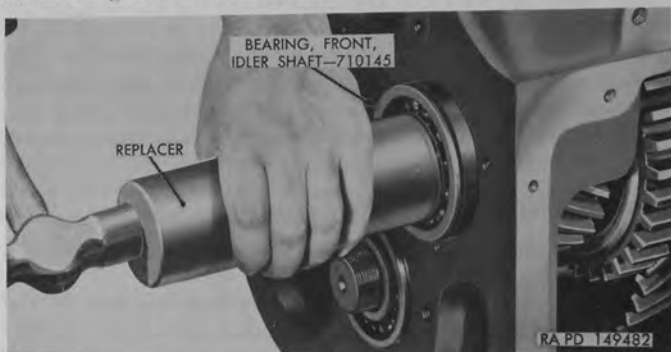

Figure 82. Use of replacer 41-R-2390-415 for installing idler shaft front bearing.
b. Coat bore in forward rear axle output shaft rear bearing retainer (QQ) with plastic type gasket cement; then use wood block or suitable driver to install oil seal (LL) in retainer. Seal must bottom against shoulder in retainer. Position forward rear axle output shaft rear bearing retainer (QQ) over end of shaft against case; then install four $\frac{3}{8}$ -16 x $1\frac{1}{8}$ cap screws (NN), and new $\frac{3}{8}$ -inch external teeth lock washers (PP) to attach bearing retainer to case. Tighten cap screws to torque of 20 to 25 pound-feet.
c. Place bearing spacer (AT) on front end of forward rear axle output shaft (AU); then install forward rear axle output shaft front bearing (AW) on shaft, using replacer 41-R-2390-415 in manner illustrated in figure 82. Bearing inner race must seat firmly against bearing spacer (AT).
c. Place bearing spacer (BD) on front end of idler shaft, then install idler shaft front bearing (BE), using replacer 41-R-2390-415 as shown in figure 82 to drive bearing onto idler shaft.
d. Install nut lock (BH); then install bearing lock nut (BF). Tighten bearing lock nuts (BF and CC) to minimum torque of 100 pound-feet, using holding tool 41-T-3215-910 on forward rear axle output shaft flange to prevent idler shaft from turning. Bend nut locks (AA and BH) against nuts to prevent loosening.
e. Install speedometer drive gear (BJ) on front end of idler shaft, using replacer 41-R-2390-415 shown in figure 82 to drive gear into place on idler shaft.
f. Place a new retainer gasket (BL) at transfer case; then install idler shaft front bearing retainer (BG), using three $\frac{3}{8}$ -16 x $\frac{11}{8}$ cap screws (AZ), with new $\frac{3}{8}$ -inch external-teeth lock washers; coat cap screw threads with plastic type gasket cement to prevent leaks. Tighten cap screws to torque of 20 to 25 pound-feet.
g. Coat threads with plastic type gasket cement; then install speedometer driven gear assembly (BK) in idler shaft front bearing retainer (BG). Tighten gear assembly into retainer with torque wrench to torque 30 to 35 pound-feet.